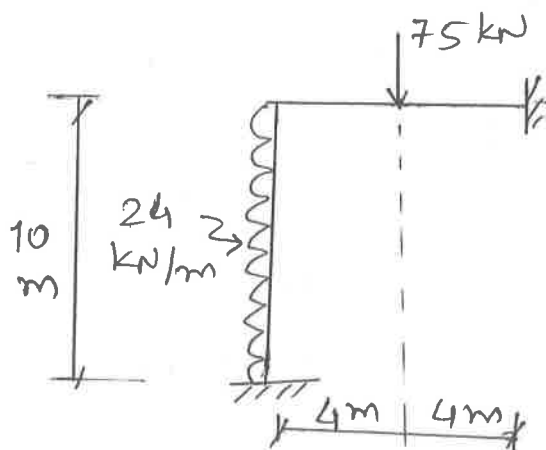

Fig. 5
- Q.4** Calculate displacements for the plane frame shown in fig.5 using stiffness member approach.  $EI = \text{constant}$  **14**